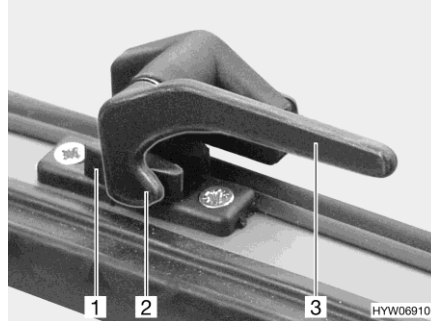

Fig. 56 Catch lever in "closed" position
- Turn the catch lever (Fig. 56,3) a quarter turn towards the centre of the window.
- Turn the catch lever (Fig. 56,3) a quarter turn towards the window frame. The locking catch (Fig. 56,2) is located on the inside of the window catch (Fig. 56,1).
- "Firmly closed" (Fig. 56)